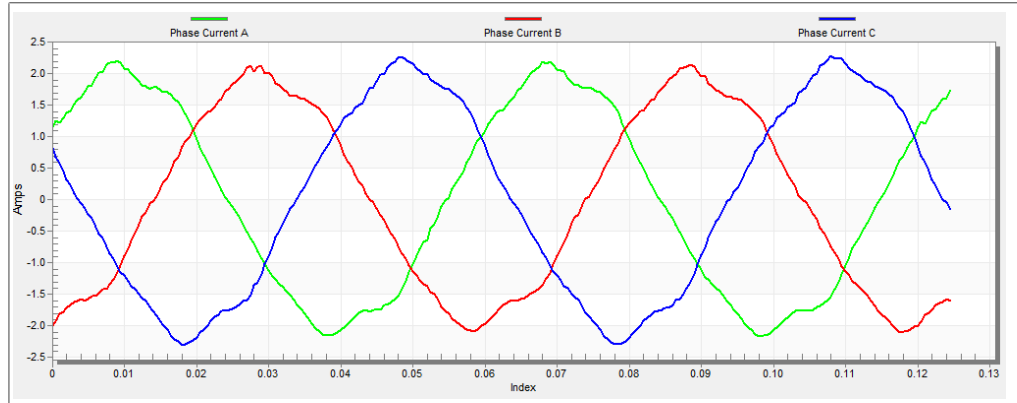

Figure 19. Phase currents
5. The optimal ratio for the V/Hz profile can be found by changing the V/Hz factor directly using the “M1 V/Hz factor” variable. The shape of the motor currents should be close to a sinusoidal shape (Figure 19). Use the following equation for calculation V/Hz factor: